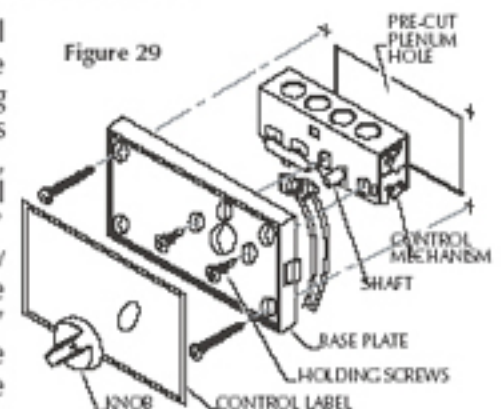

Figure 29
3. Remove the control mechanism from the base plate by removing the two holding screws at the back, and then, turning the control mechanism 180° upside down to allow the shaft to protrude out through the 1/2" hole on the base plate (NOTE: base plate remains in the same position and only the control mechanism is turned (Fig. 29).